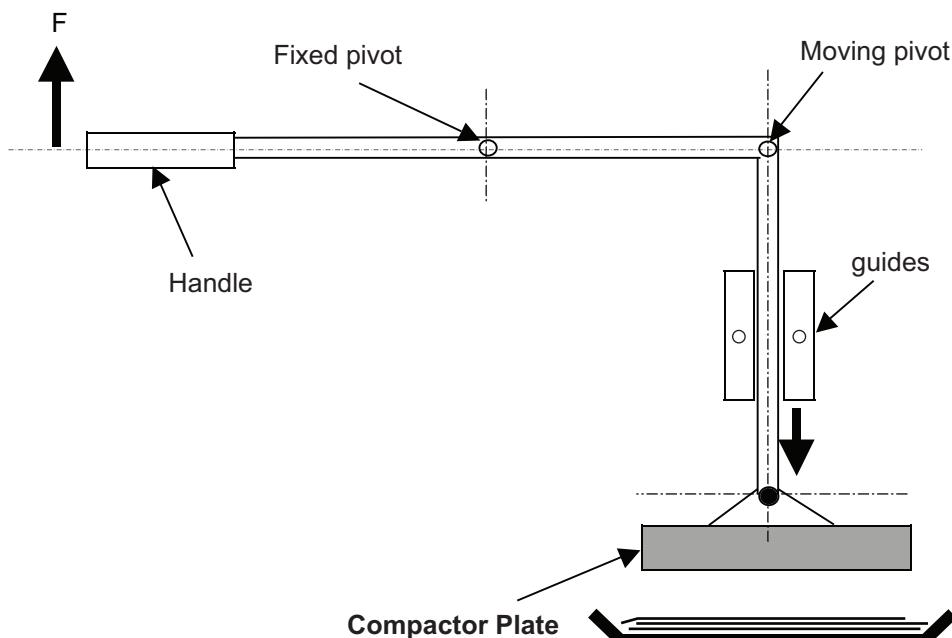

Fig. 3(a)
- 3 (a) Fig. 3(a) shows a linkage which forms part of a prototype manual compactor for recycled waste. A force F is applied as shown which enables the compactor plate to press on the waste.